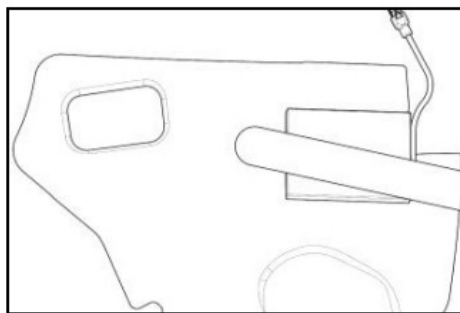

Fig. 28
- Position the battery in the right polystyrene cheek pad housing and secure it using the Velcro ribbon (Fig. 28).